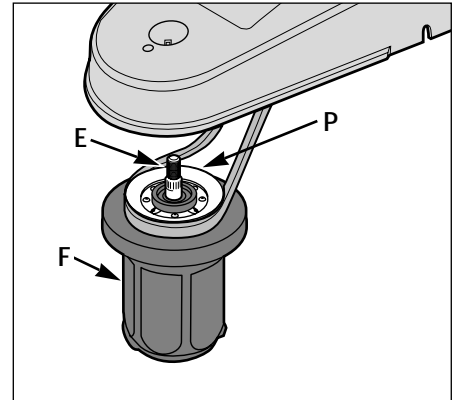
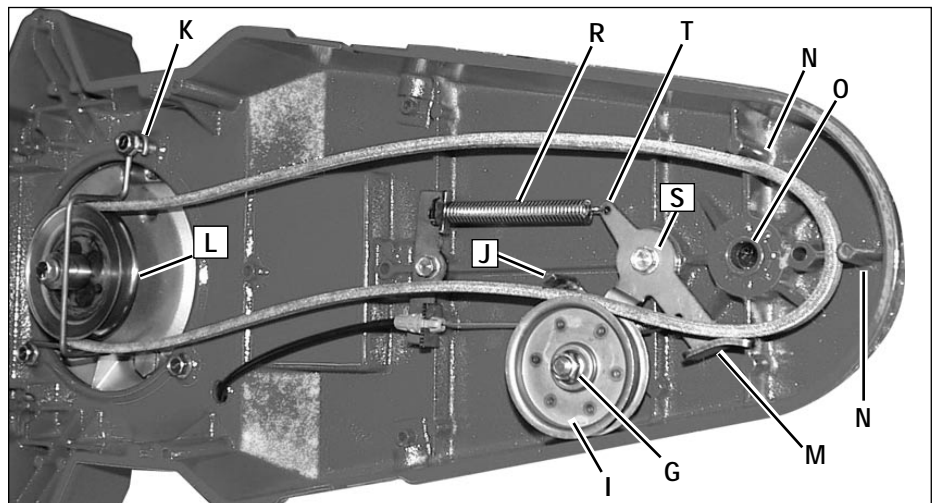

Figure 5-5
Figure 5-6
8. Remove the nut from the spindle shaft and then remove the spindle shaft (E, Figure 5-5) and entire spindle head assembly (F) from the bottom of the deck. Slip the belt off the spindle head pulley (P).
9. Disconnect the idler arm spring (R, Figure 5-6) from the hole in the idler arm (T).
10. Using a 1/2" wrench, loosen the idler arm mounting screw (S, Figure 5-6) two full turns.
11. Using a 9/16" wrench and a 7/32" hex (Allen) wrench, loosen the mounting nut (G, Figure 5-6) and screw on the idler pulley (I) a few turns, or until belt is free to slip out between pulley and belt guide (J). Remove belt.
12. Loosen rear belt guide screw (K, Figure 5-6) enough to allow belt to be removed from engine pulley (L). Remove belt from unit.
1. Install belt on engine pulley (L, Figure 5-6) and retighten rear belt guide screw (K) securely.
2. Route belt between idler pulley (I, Figure 5-6) and belt guide (J), to inside of brake arm (M), and next to die-cast belt guides (N).
3. Securely tighten the mounting nut (G, Figure 5-6) and screw in the idler pulley (I).
4. Securely tighten the idler arm mounting screw (S, Figure 5-6). After tightening, check that idler arm is free to rotate. If not, remove idler arm and check for debris that may be interfering with freedom of movement.
5. Look at the spindle head mounting hole (O, Figure 5-6) and note the grooves that are cut into the inner sides of the hole. These grooves were formed by the splines on the spindle shaft (E, Figure 5-5).
6. Install the belt on the spindle head pulley (P, Figure 5-5) and insert the spindle shaft (E) (with attached spindle head assembly) into the spindle head mounting hole (O, Figure 5-6). Rotate the spindle head assembly to align the splines on the spindle shaft with the grooves in the mounting hole. Check that the belt is still in the pulley groove and is to the inside of the die-cast belt guides (N, Figure 5-6).
- 10. Reattach the idler arm spring (R, Figure 5-6) in the hole in the idler arm (T).